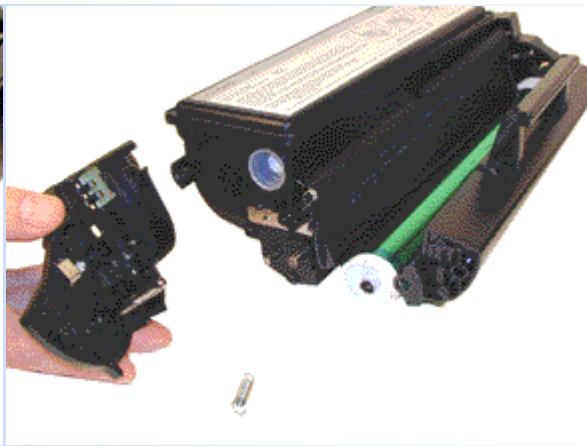

FIGURE 3
2. Carefully remove the end cap. Note that the cartridge will basically fall apart at this point. If you intend to re-use the drum, make sure you are very careful not to damage it. See Figure 3